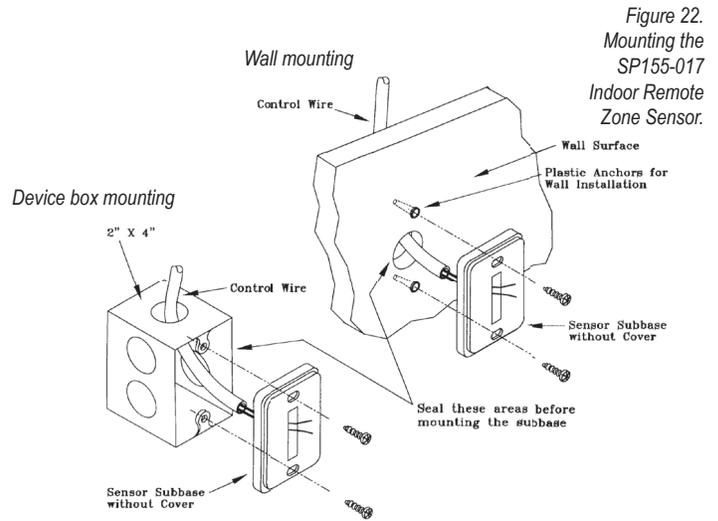

Figure 22.
2. **Mount subbase.** Remove Sensor cover from the subbase, and mount subbase on the wall or in a 2" X 4" device box. Route the wires through the wire access hole in the subbase (see Fig. 22). Seal the hole in the wall behind the subbase.